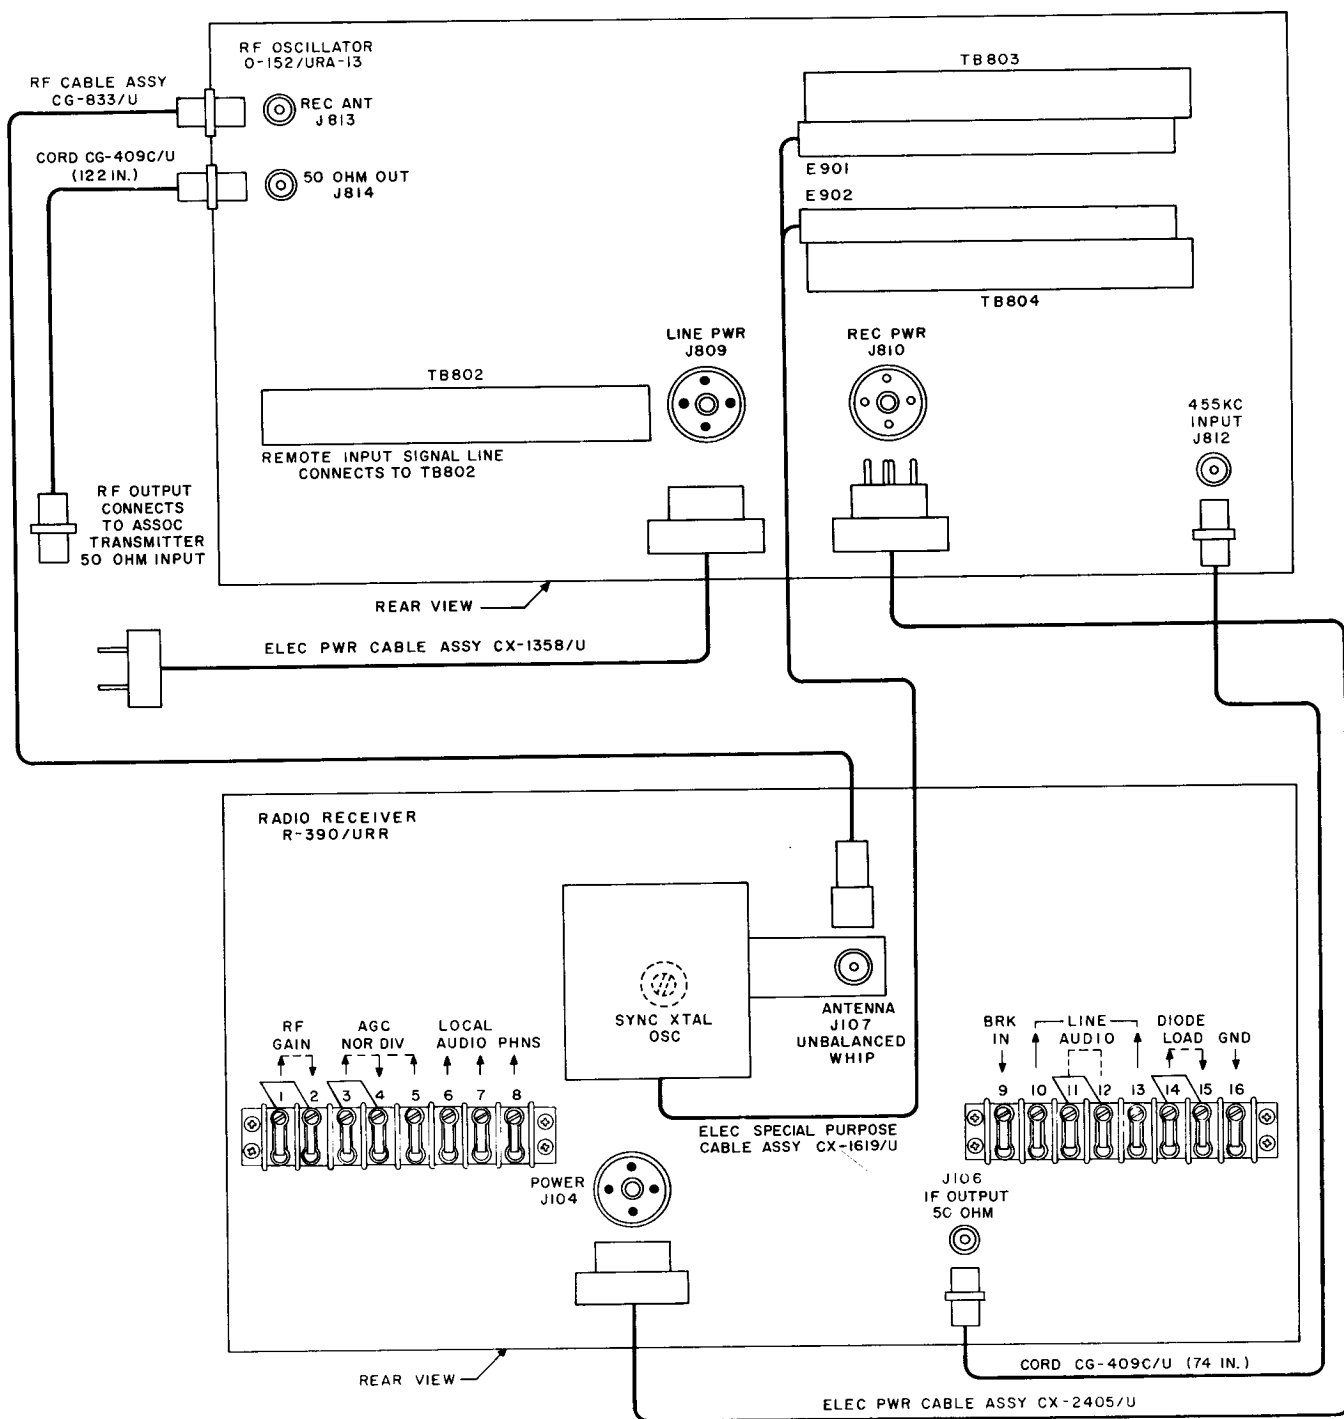

Figure 22. Oscillator Group AN/URA-13, cording diagram.
- (1) After installing the units as described in paragraph 18, connect the cables to the units as shown in the cording diagram (fig. 22). The table below lists the inner connections between Radio Frequency Oscillator O-152/URA-13 and Radio Receiver R-390/URR.